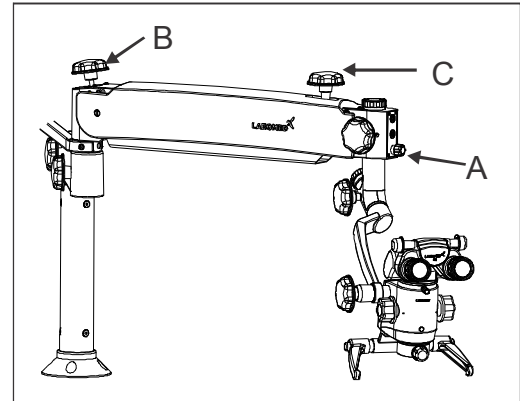

Fig. 9
- 5 The illumination is controlled through the control knob (A), fig. 9. Rotate it clockwise or anti clock wise to achieve desired illumination level Functional setup keep it as minimum.